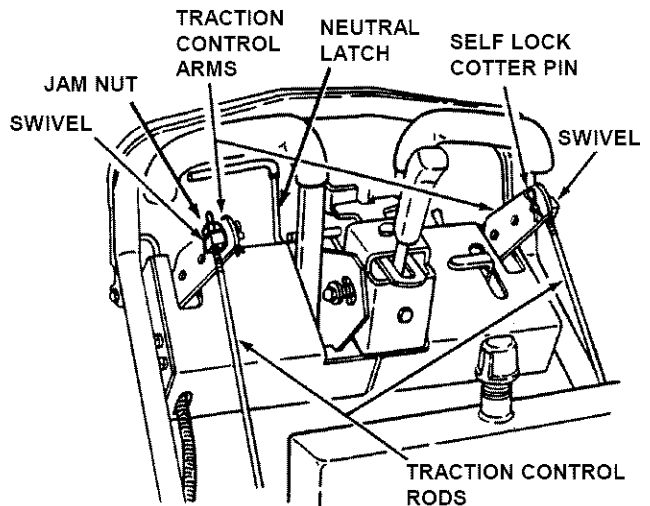

FIGURE 3.8
STEP 2: Place traction control levers in the Neutral position and engage Neutral Latch. See Figure 3.8.
STEP 4: Disconnect the swivel from the right and left traction control arms and loosen swivel jam nuts. Refer to Figure 3.8.